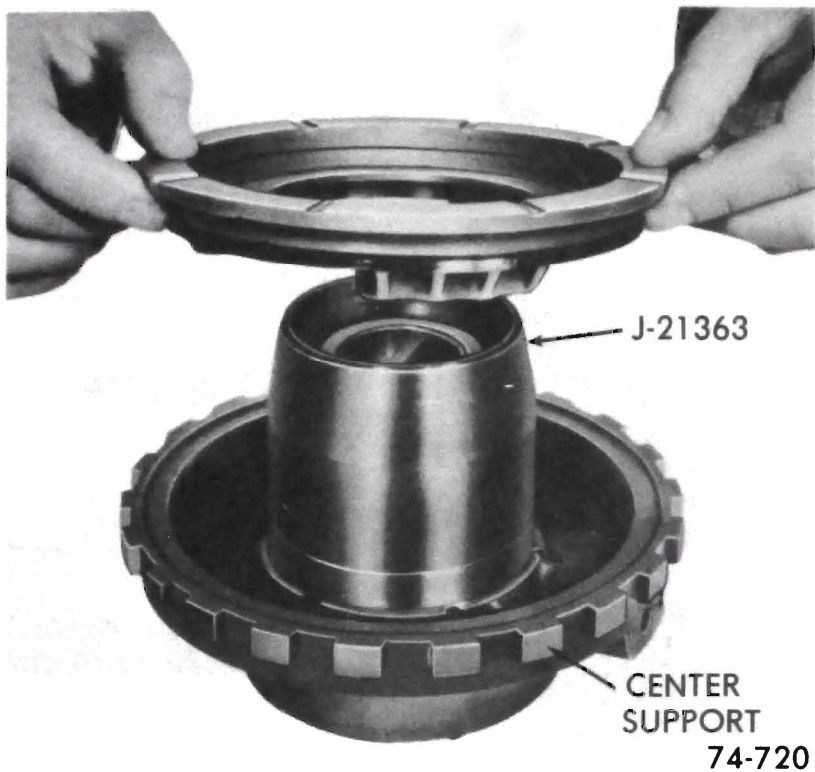

Figure 76-227
3. Install inner seal protector, Tool J-21363, on the center support hub, install piston. See Figure 76-227.